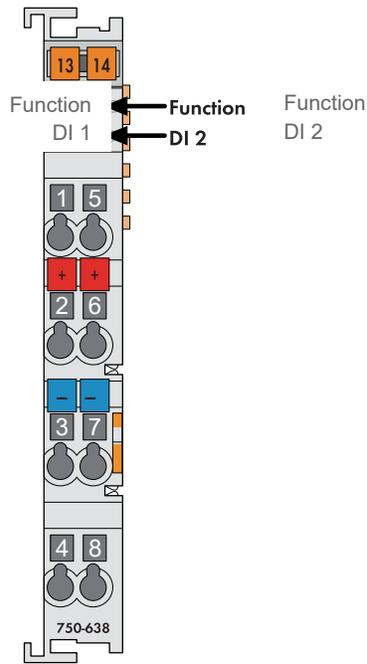

Figure 13: 2-channel counter module, 750-638
4. Connect the connection cables to the connection terminal for S0 interface (Figure 13 below). Refer to Table 6 below for the correct wire assignment.